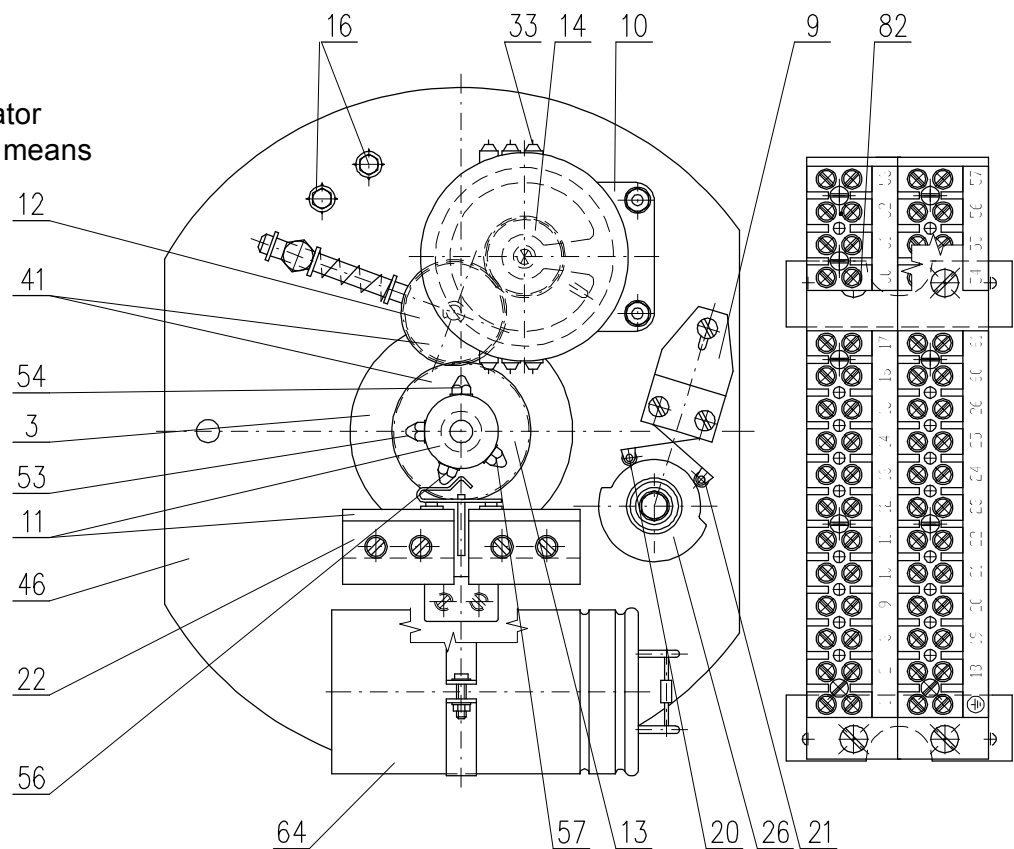
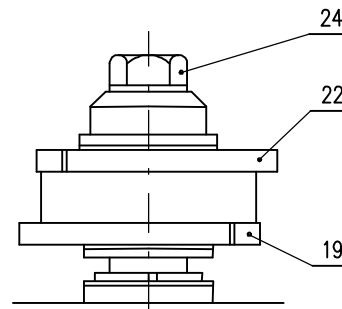

Fig.3
Fig. 7
Switch element (9) (Fig 3) is formed by two micro-switches S1(20) and S2(21). It is put into operation after loosening of the nut (18)(Fig.3).
Cam unit (26)(Fig.3) is formed by two adjustable cams (19) and (22)(Fig.7) placed on the shaft of the torque control element (45)(Fig.2). The cams are turned according to the set switch-off force.
The actuator is equipped with two parallel space heaters(16)(Fig.3,5) With total power output 20W. Connection of the space heater is conditional by operation environment.